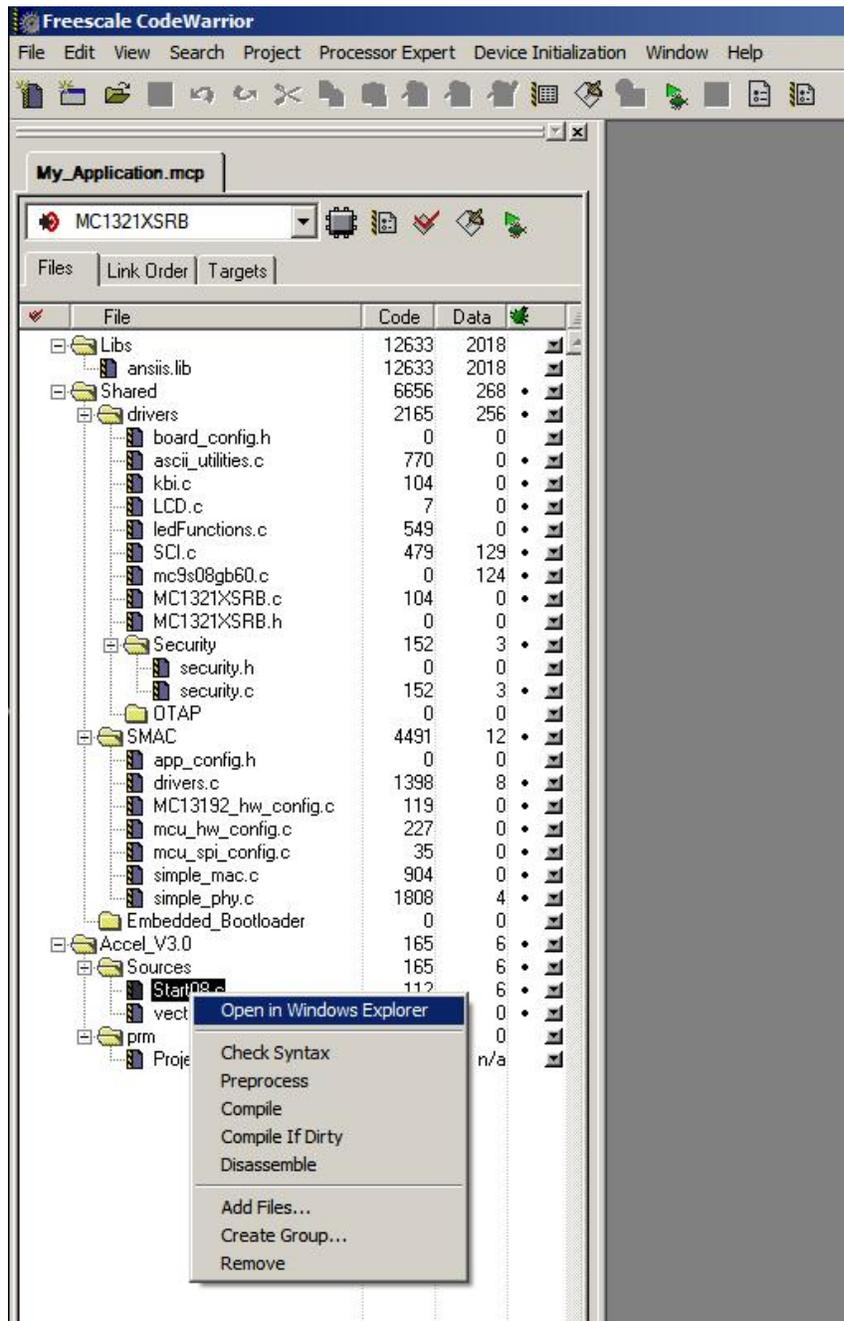

Figure 12. Open in Windows Explorer
- Right click on the `start08.c` source file and choose Open in Windows Explorer as shown in Figure 12 to go to the Sources folder of the project that have the sources and headers files of the Accelerometer application that have been removed from the project.